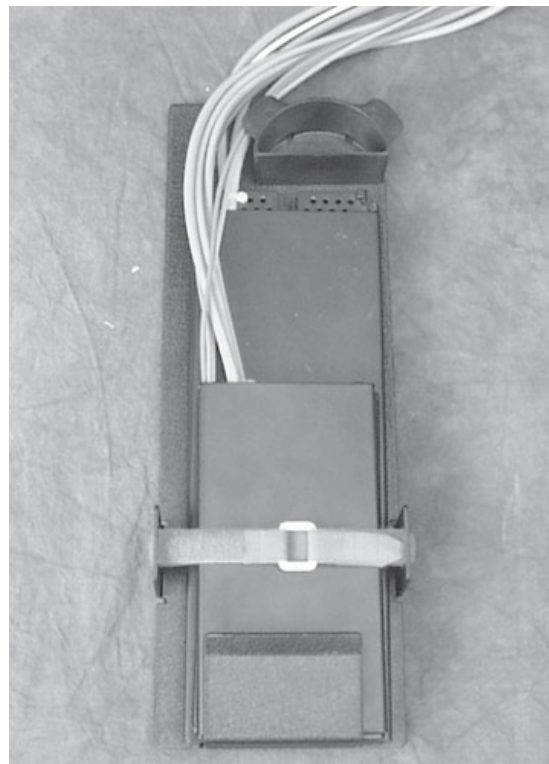

Figure 19
**11.7** Place the spliced trays into the holder as shown in Figure 19. The fibers exiting the trays are positioned around the radius control guide. Secure the trays to the holder using the provided hook-and-loop strap.